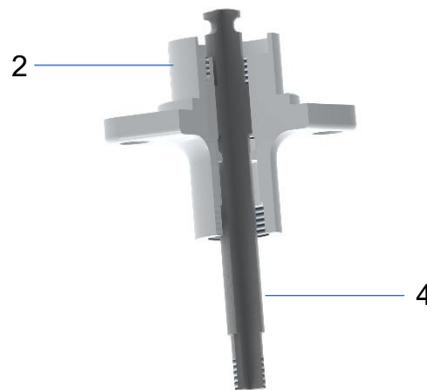

Figure 8 – Bonnet (2) and Stem (4)
- 11.3. Place the bonnet (2) in a suitable fixture with the top of the bonnet (2) pointing vertically down as per Figure 8.